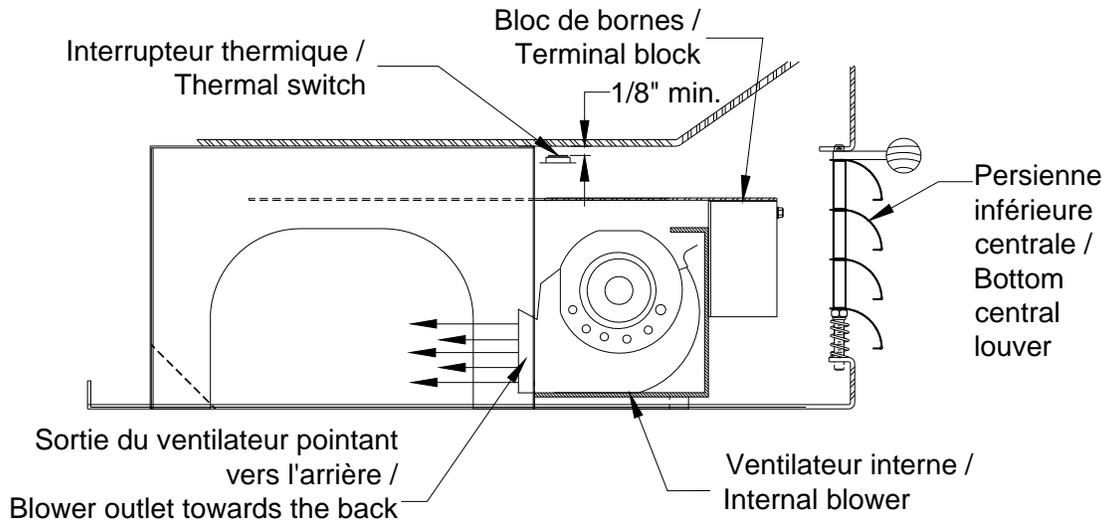

Figure 3 Installation dans tous les foyers Deltas / Installation in all Delta fireplaces
4. Pass the blower through the bottom louver opening so that the outlet is on the bottom and facing towards the back (see Figure 3).